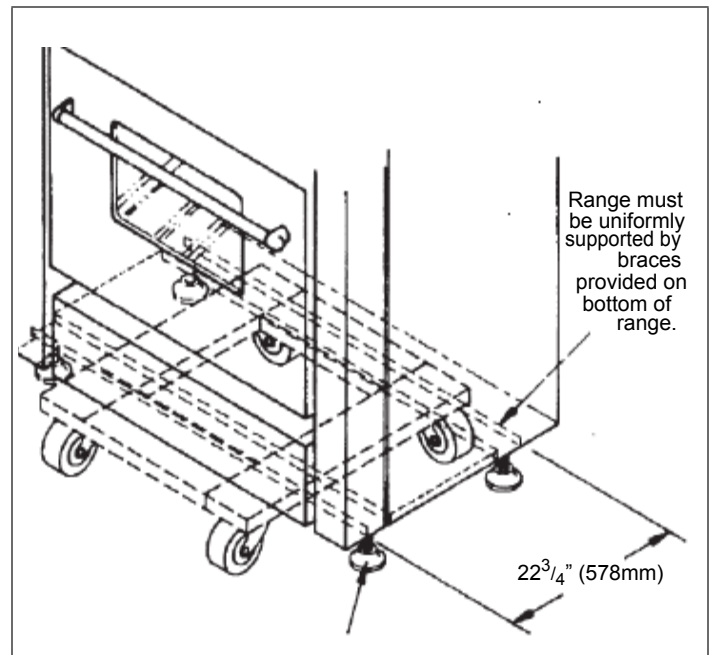

FIGURE 6: FURNITURE DOLLY POSITIONING
- Due to the weight, a furniture dolly with soft wheels or an air lift should be used to move this unit. The weight must be supported uniformly across the bottom (see Figure 6).